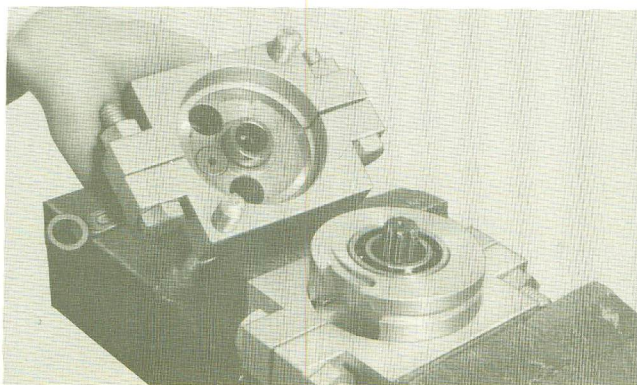

Fig. 3-133
- Fig. 3-133 shows the disassembly crankshaft assembly. To remove the crank cover and bearing, use a press.